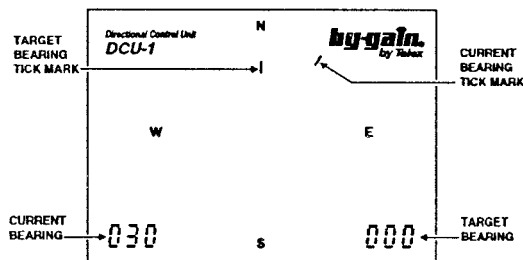

Figure 8 DCU-1
4. Assemble the mast to the rotator using the U-bolts, nuts, lockwashers, and clamp plate as shown in Figure 8. Apply a coating of heavy-duty motor oil or grease to the threads of the stainless steel U-bolts to prevent seizing. Do not tighten at this time.
5. Center the mast within the tower thrust bearing and secure the thrust bearing to the mast. Turn the mast by hand to check for binding within the tower. Adjust the thrust bearing if required. If no binding occurs, then tighten the rotator U-bolts to secure the mast to the rotator. Install and tighten the center mast bolt at this time. See Figure 8.
3. Assemble the top mast to the rotator using the U-bolts, nuts, lockwashers, and clamp plate as shown in Figure 8. Apply a coating of heavy-duty motor oil or grease to the threads of the stainless steel U-bolts to prevent seizing. Tighten all bolts securely.